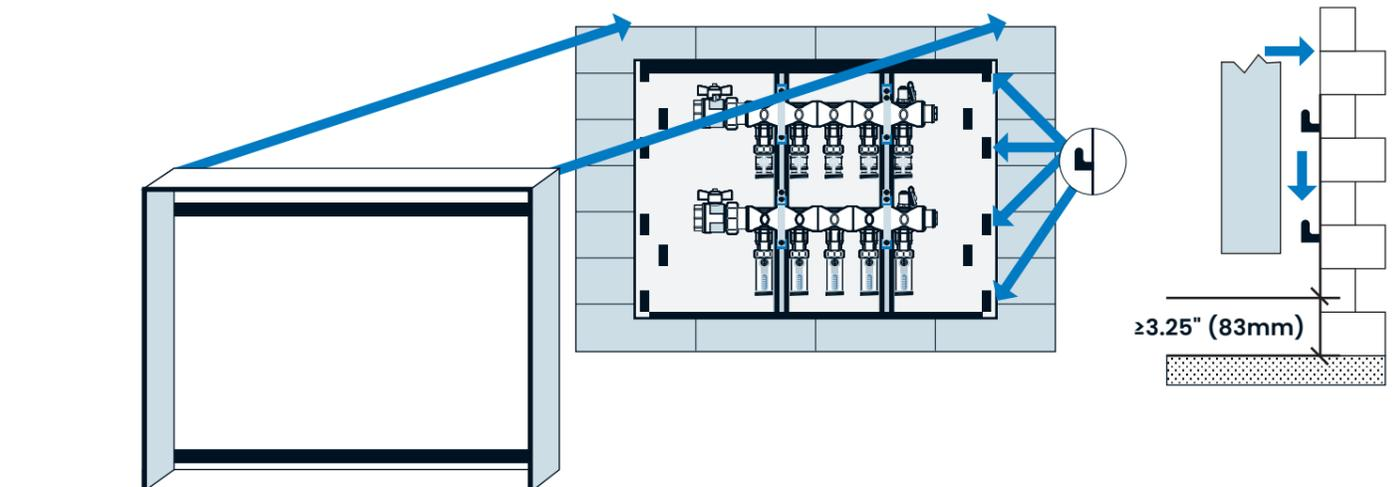

Figure 8: Install surface-mount enclosure
9. Install the surface-mount enclosure by placing the enclosure above the backplane and aligning the mounting tabs from the backplane and enclosure slots (see **Figure 8**). Then, push down to secure.